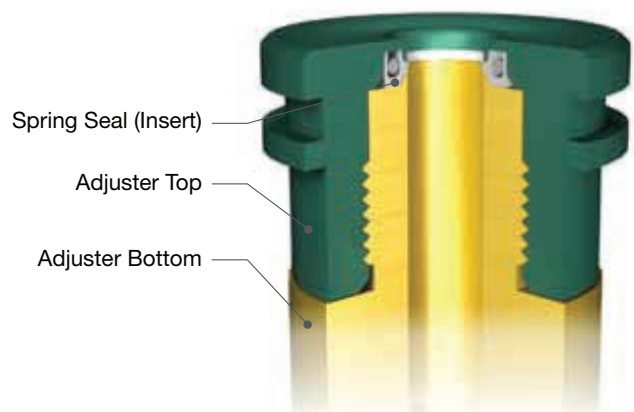

Figure 24: Adjuster Top Assembly
- (ix) Inspect Adjuster Top to make sure that Spring Seal (Adjuster Top) did not flare out during installation and that the Spring Seal (Adjuster Top) is shown in Figure 24.
(ix) Inspect Adjuster Top to make sure that Spring Seal (Adjuster Top) did not flare out during installation and that the Spring Seal (Adjuster Top) is oriented as shown in Figure 24.